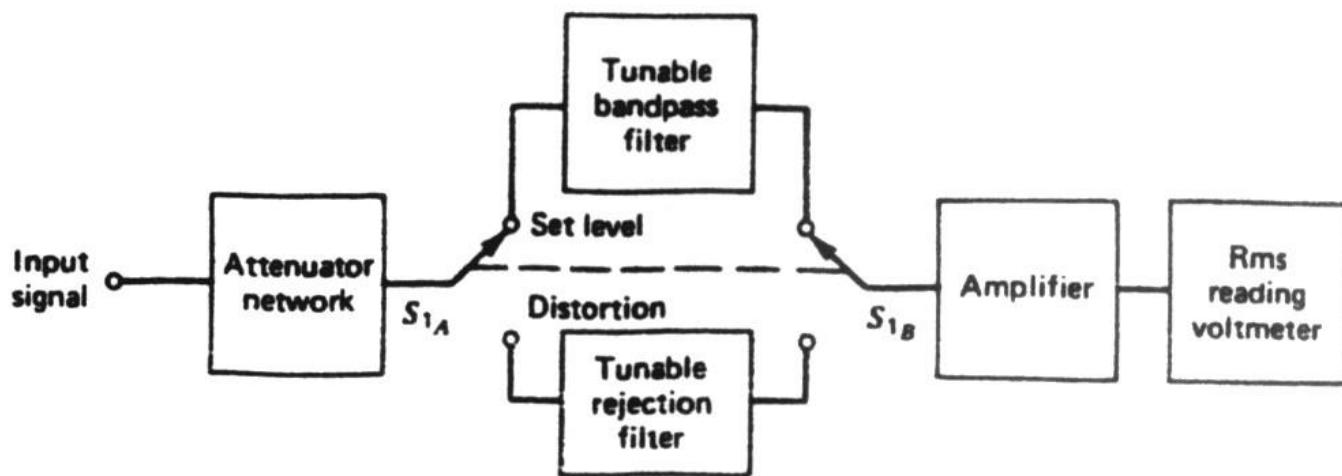

Fig. 1 Block diagram of a distortion analyzer.
- A block diagram for a fundamental-suppression harmonic analyzer is shown in Fig. 1. When the instrument is used, switch S, is set to the "set level" position, the band pass filter is adjusted to the fundamental frequency and the attenuator network is adjusted to obtain a full-scale voltmeter reading.